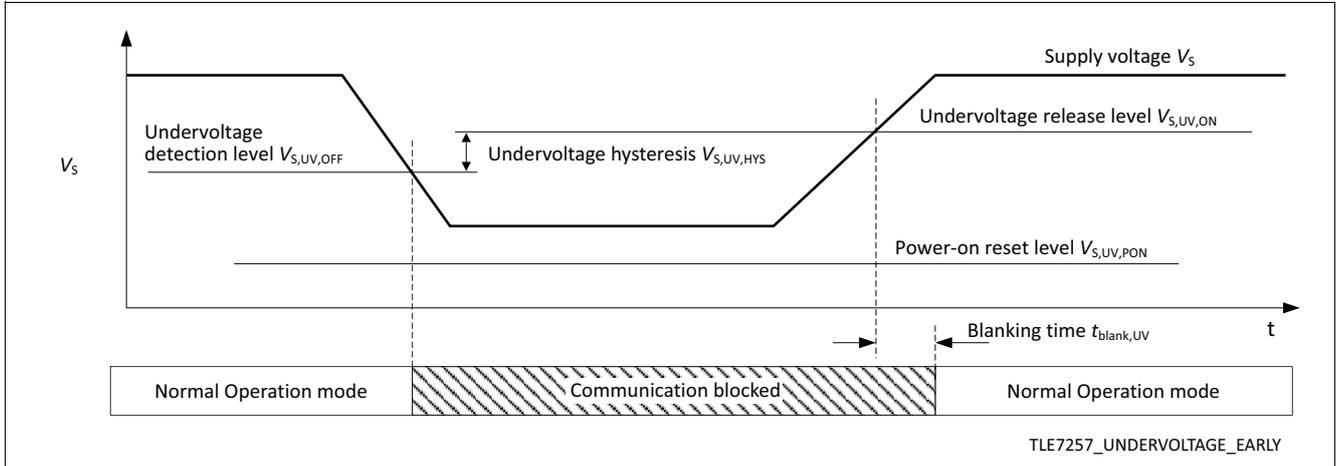

Figure 11 Early undervoltage detection
- In Normal Operation mode the TLE7257 blocks the communication between the LIN bus and the microcontroller when detecting undervoltage events. However, no mode change will occur. After V_S rises above the undervoltage release level $V_{S,UV,REL}$, the bus communication interface will be released when the signal on the TxD input goes “high”. See Figure 11.